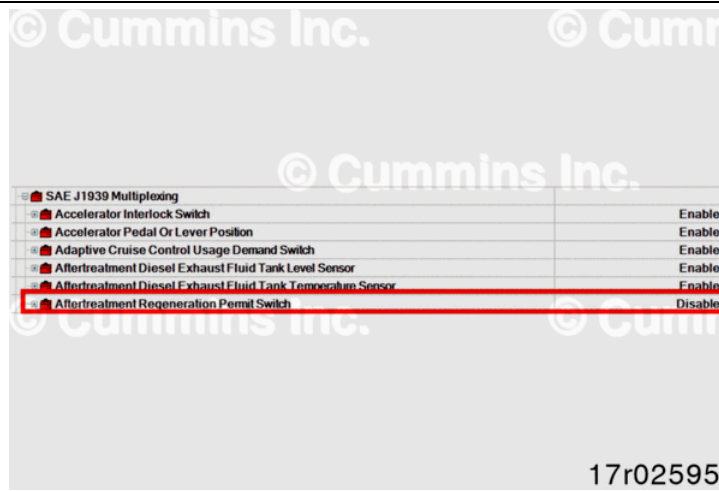

Figure 4, INSITE™ Electronic Service Tool Features and Parameter Trims SAE J1939 Multiplexing
- 5aii. Scroll down and expand SAE J1939 Messaging and disable Aftertreatment Regeneration Permit switch if the trim is enabled. Reference Figure 4 for the correct setting.
5bi. Go to features and parameters and expand SAE J1939 Messaging and disable Aftertreatment Regeneration Permit switch if the trim is enabled. Reference Figure 4 for the correct setting.